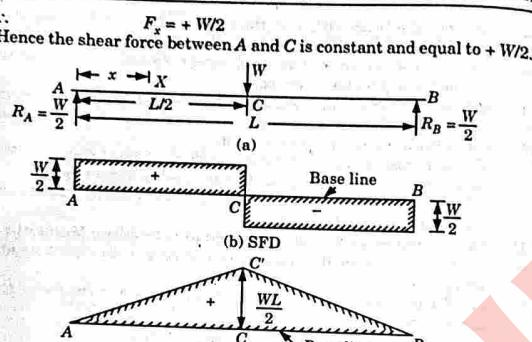

Fig. 2.5.1. BM and SF diagram.
1. Fig. 2.5.1 shows a beam AB of length L simply supported at the ends A and B and carrying a point load W at its middle point C .
4. Hence, bending moment at C is $WL/4$ and it decreases to zero at B. Now the BM diagram can be completed as shown in Fig. 2.5.1(c).